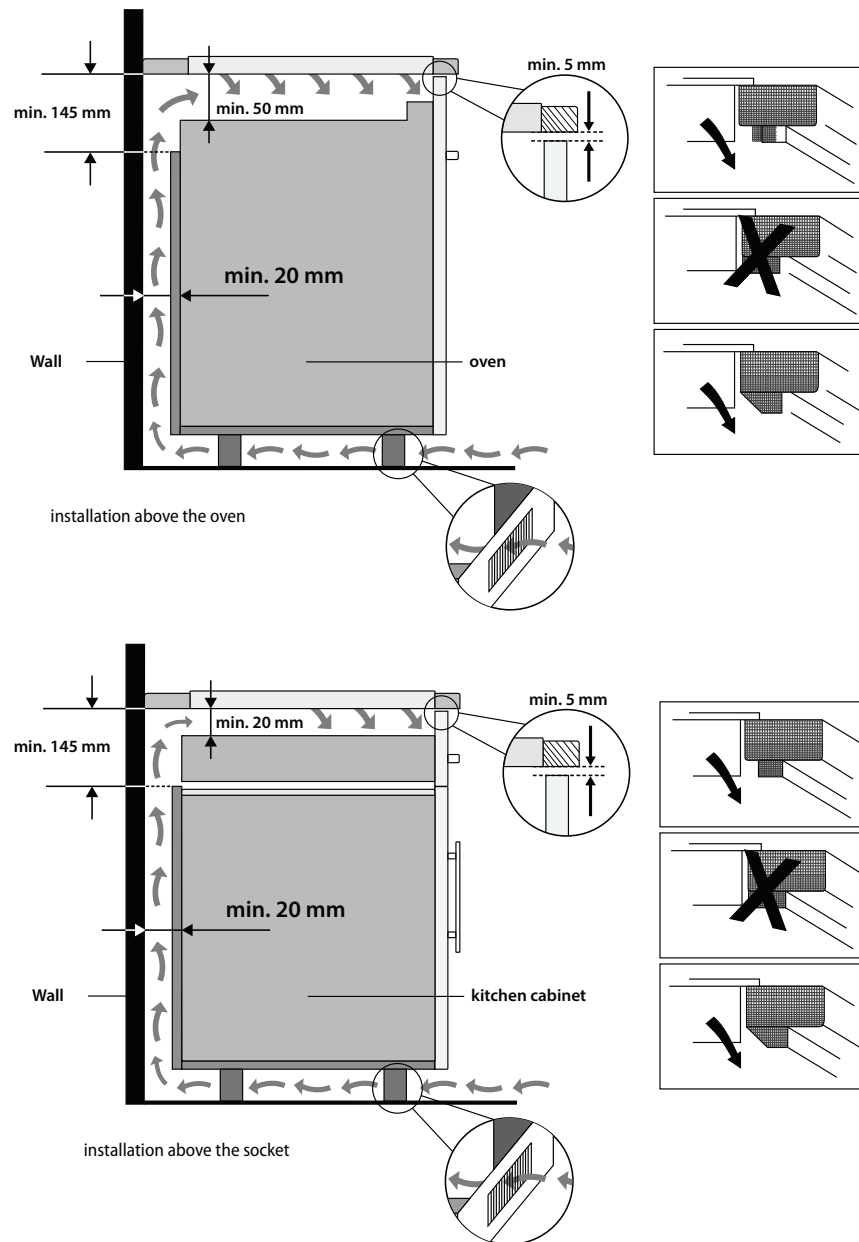

Fig. 8
- For sufficient air circulation the appliance needs to be installed as shown in Fig. 8 and the cabinet must be designed so that the air can flow at the bottom - we recommend placing a ventilation grille in the lower plinth. Make sure that the ventilation space of 20 mm, between the drawer, the rear wall and 50 mm between the drawer and the hob, is free and under the worktop there must be a ventilation gap of min. 5mm, ideally if the design of the cabinet allows it, even more (Fig. 8).